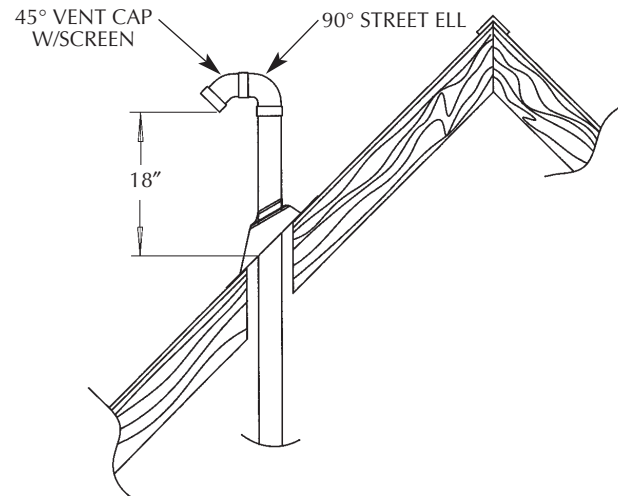

Figure 5
- The Power Vent outlet terminal shall terminate at least 18 inches above the roof surface. Figure 5.